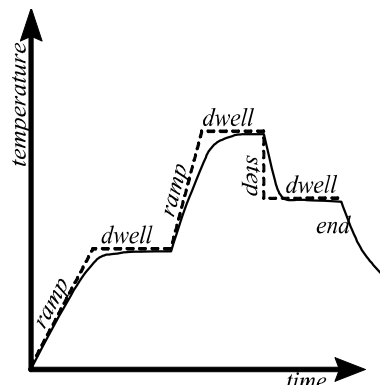

fig 3 - a program
- Alternatively the 2408 may be used as a 16-segment programmer, with each segment being a Ramp, a Step, a Dwell, or End. The program can be set to cycle if required. See fig. 3.